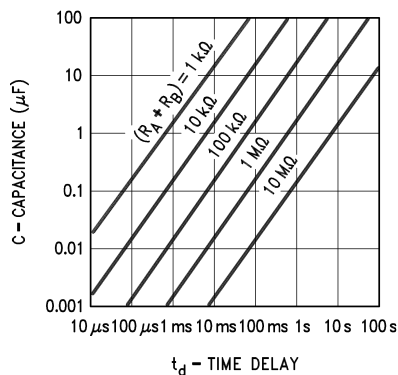

FIGURE 3. Time Delay
*Figure 3* is a nomograph for easy determination of R, C values for various time delays.